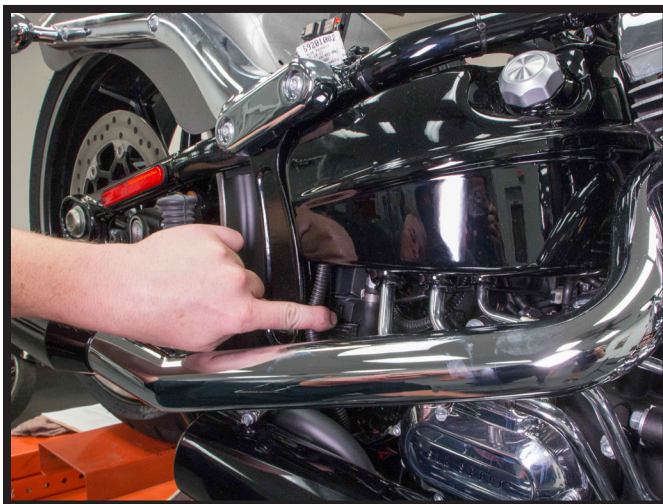

FIGURE 40
21. ROUTE THE WIRES UP INTO THE BATTERY BOX. (FIGURES 40, 41)